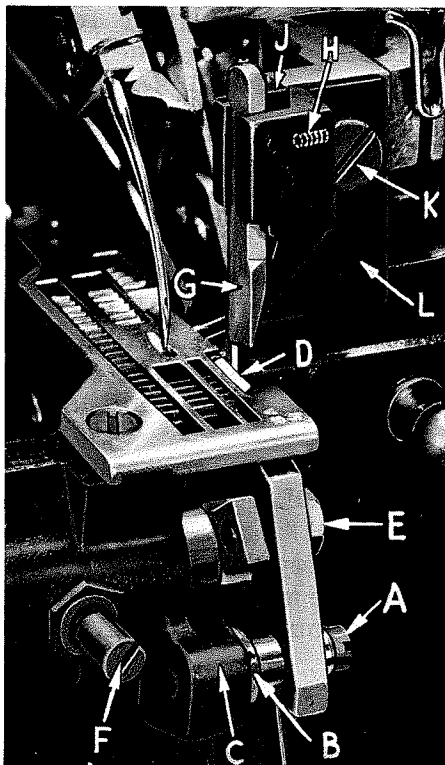

Fig. 15
Replace lower knife holder assembly. In replacing lower knife holder assembly, tighten screw (A, Fig. 15) so that when the face of the flange on sleeve (B) seats against throat plate mounting bracket (C) a free lateral motion of the lower knife and holder assembly is obtained when the knife is manually pressed at its upper corner. Lower knife (D) should be set with cutting edge flush with throat plate surface. Adjustments are made with hexagonal head screw (E) which holds the lower knife. Lower knife is spring pressed against the upper knife, so no lateral adjustment is necessary when the width of trim is changed.
Replace upper knife assembly. Clamp upper knife (G, Fig. 15) in position, setting allen screw (H) to hold clamp (J) against the upper knife. At bottom of its stroke, front cutting edge of upper knife should extend not less than  $1/64$  inch below cutting edge of the lower knife.